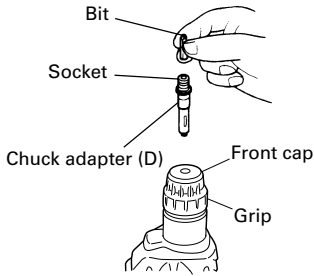

Fig. 10
**4. When driving machine screws (Fig. 10)**
**5. When driving wood screws (Fig. 10)**